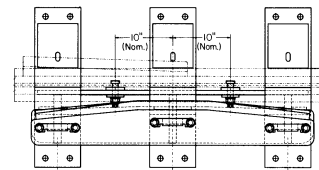

Fig. 8
4. Referencing guidelines provided by Fig. 8 locate and mark on the stock rail, the center lines of the mounting bolt holes.